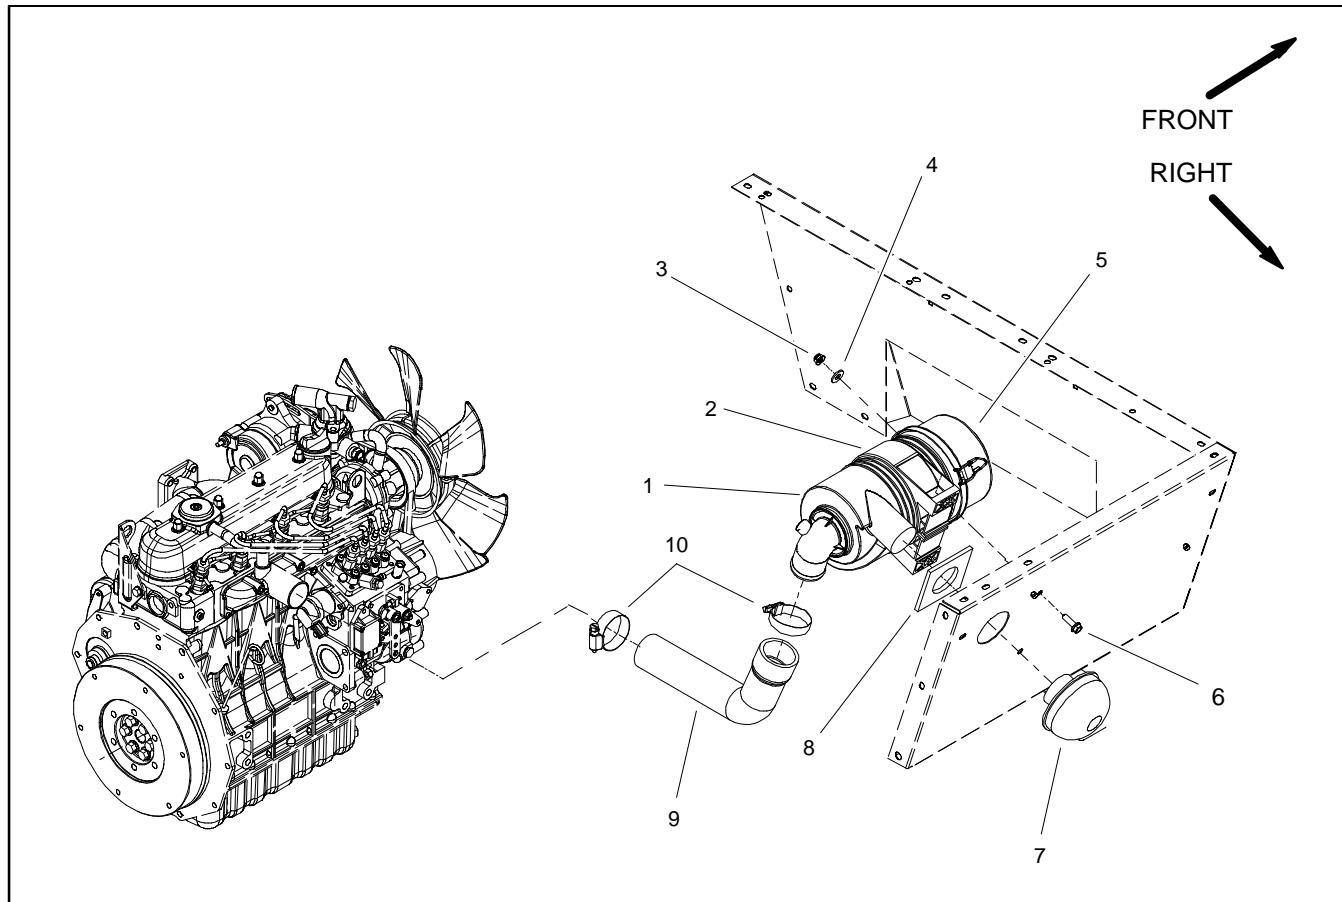
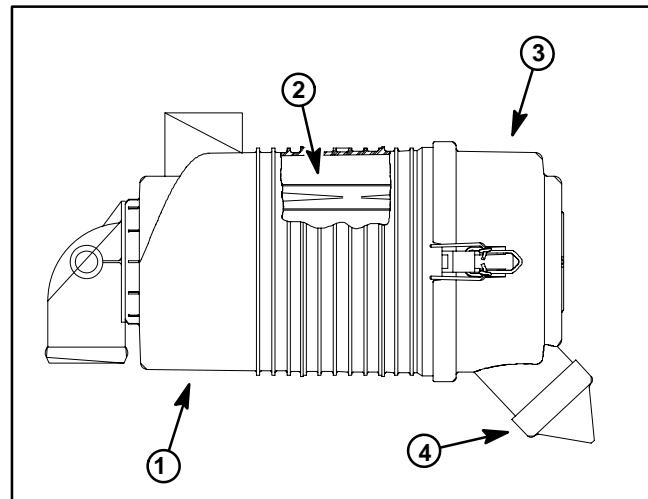

Figure 4
Figure 5
## Removal (Fig. 4)
2. Remove air cleaner components as needed using Figure 4 as a guide.
## Installation (Fig. 4)
1. Assemble air cleaner system using Figures 4 as a guide. Make sure that vacuator valve on air cleaner cover points downward after assembly (Fig. 5).